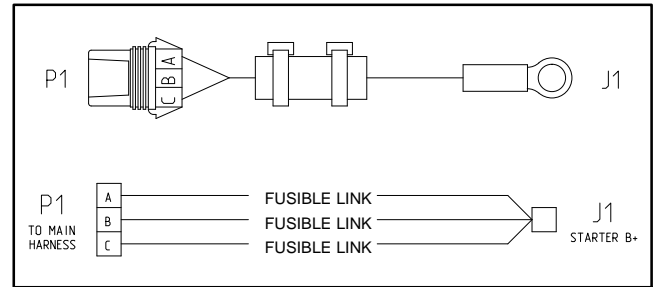

Figure 26
The Reelmaster machines use four (4) fusible links for circuit protection. Three (3) of the fusible links are located in a single harness that connects the starter B+ terminal to the main wire harness (Fig. 26). The fusible links in this harness protect the glow plug, alternator, and main power relay circuits.
3. For fusible link harness (Fig. 26):